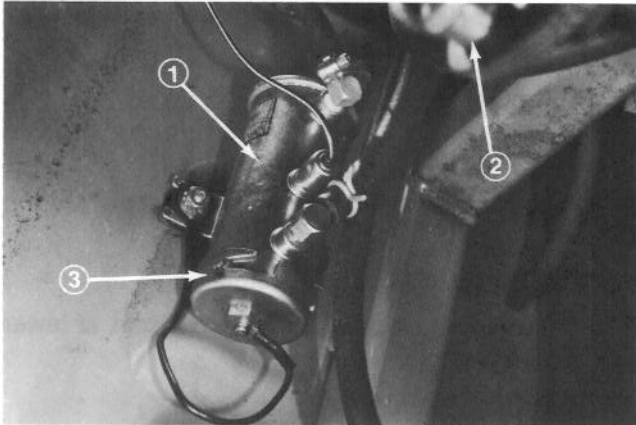

Figure 47
1. Fuel pump is located on inner frame bulkhead to left of drive coupling assembly (Fig. 47).
3. Place a drain pan under fuel pump and remove cover from fuel pump with 17 mm wrench (Fig. 47). Take care not to damage wire while removing cover.
6. Clean magnet of any residue (Fig. 48), insert filter into body, and install cover (Fig. 47).